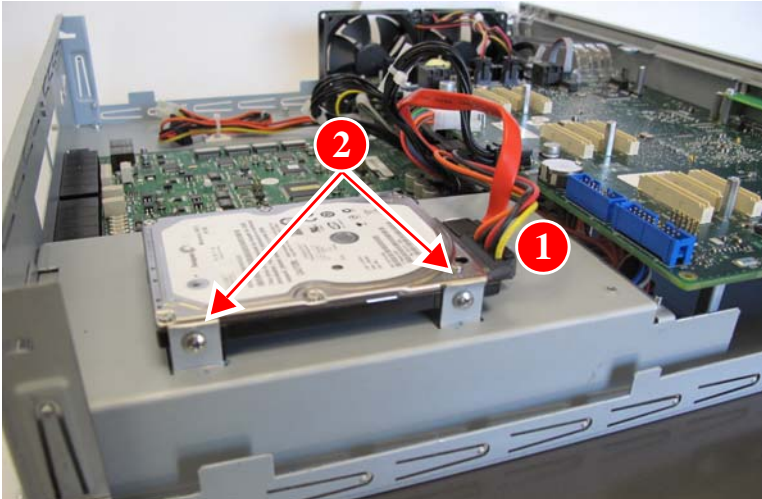

Figure 78: CX II/CXi II Hard Disk Drive/Solid State Drive Replacement
2. Unplug the data cable and power cable from the old hard disk drive; see (1) in Figure 78.
3. Remove the two screws securing the drive to the mounting bracket, and then lift the drive out; see (2) in Figure 78.